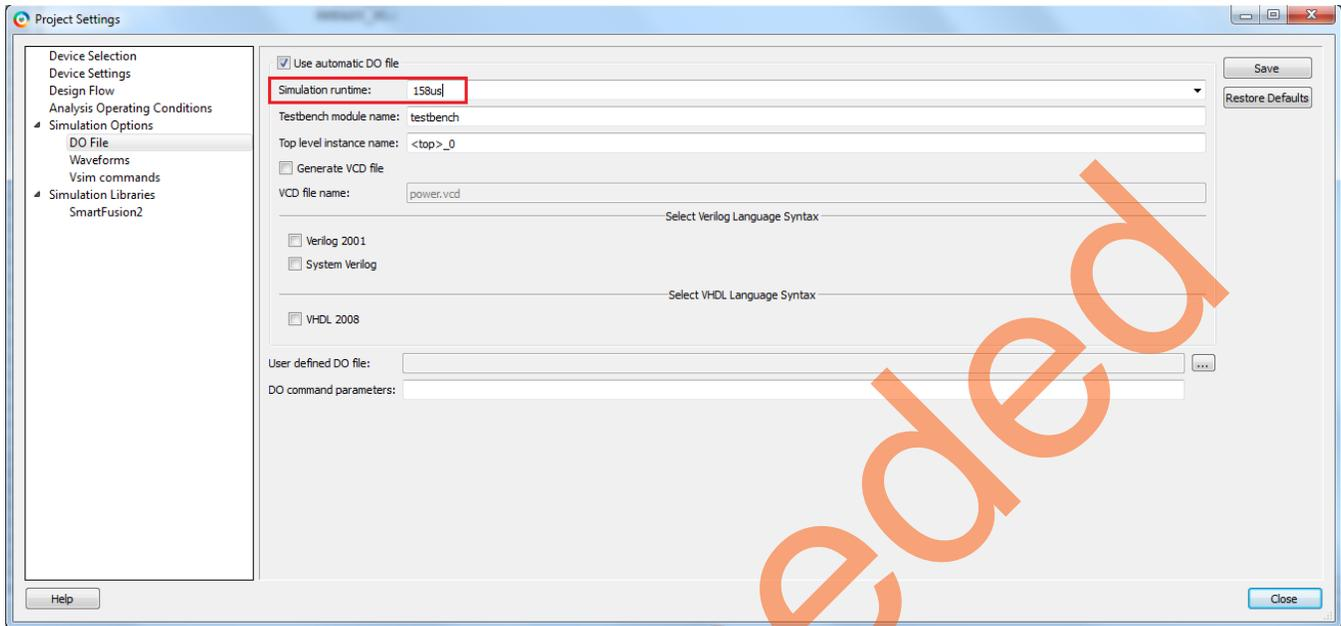

Figure 30. Simulation Runtime
1. The simulation tool must be set up before invoking so that it loads with the desired settings. Select **Project > Project Settings > Simulation Options > Do File**. Set **Simulation Runtime** to **158 us**, as shown in Figure 30.